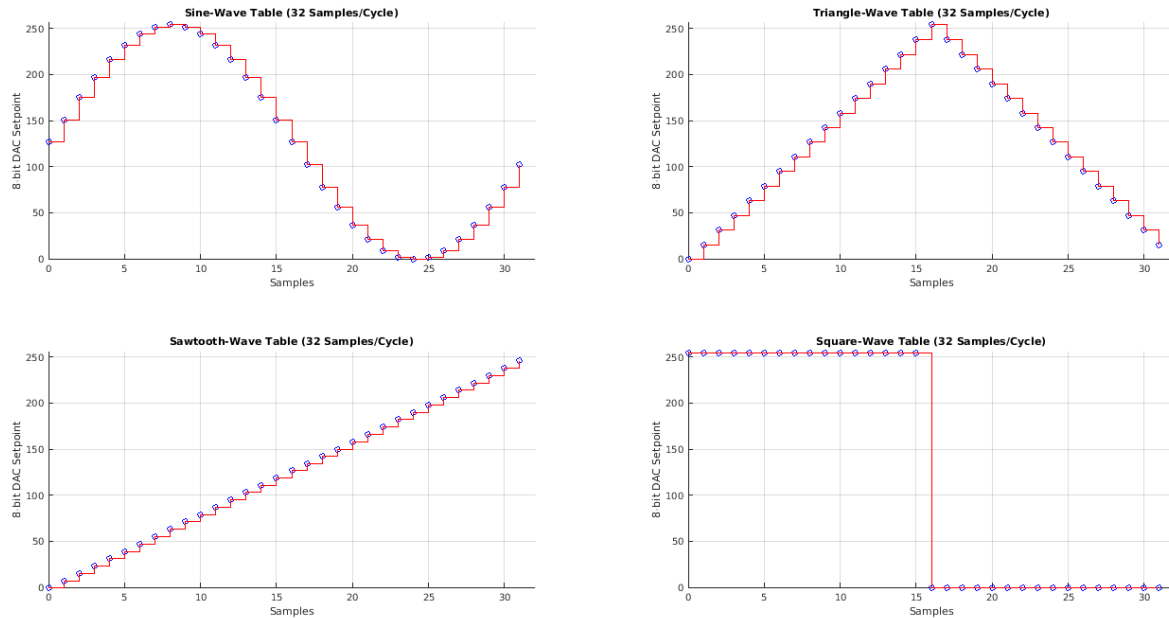

Figure 6.8: Graphical representation of the wave tables used in the lab assignment.
Through quantization, analog signals can be represented in software as a list of numerical values. Part of the in-lab assignment uses a *wave table* containing a digital representation of a single wave cycle. These tables are arrays, indexed by a counter that increments as the data is moved into the DAC. The rate at which the waveform samples are fed into the DAC determines the resulting output frequency. Figure 6.8 contains the c-code for tables of the basic wave types.
Figure 6.8 shows graphs of each table in figure 6.8. These tables use 8-bit data (256 quantization levels) with 32 samples per wave cycle. Increasing the number of samples per cycle would improve the smoothness of the output. However, increasing the number of samples also requires a much higher rate of moving data into the DAC to achieve the same output wave frequency.
**6.2 Generating Waveforms with the DAC.** The goal of this exercise is to generate an analog waveform that can be viewed using either an oscilloscope or the analog input of a Saleae logic analyzer. The DAC peripheral will be fed values from one of the lab wave-tables located in figure 6.8.
4. Copy one of the wave-tables in figure 6.8 into your application.